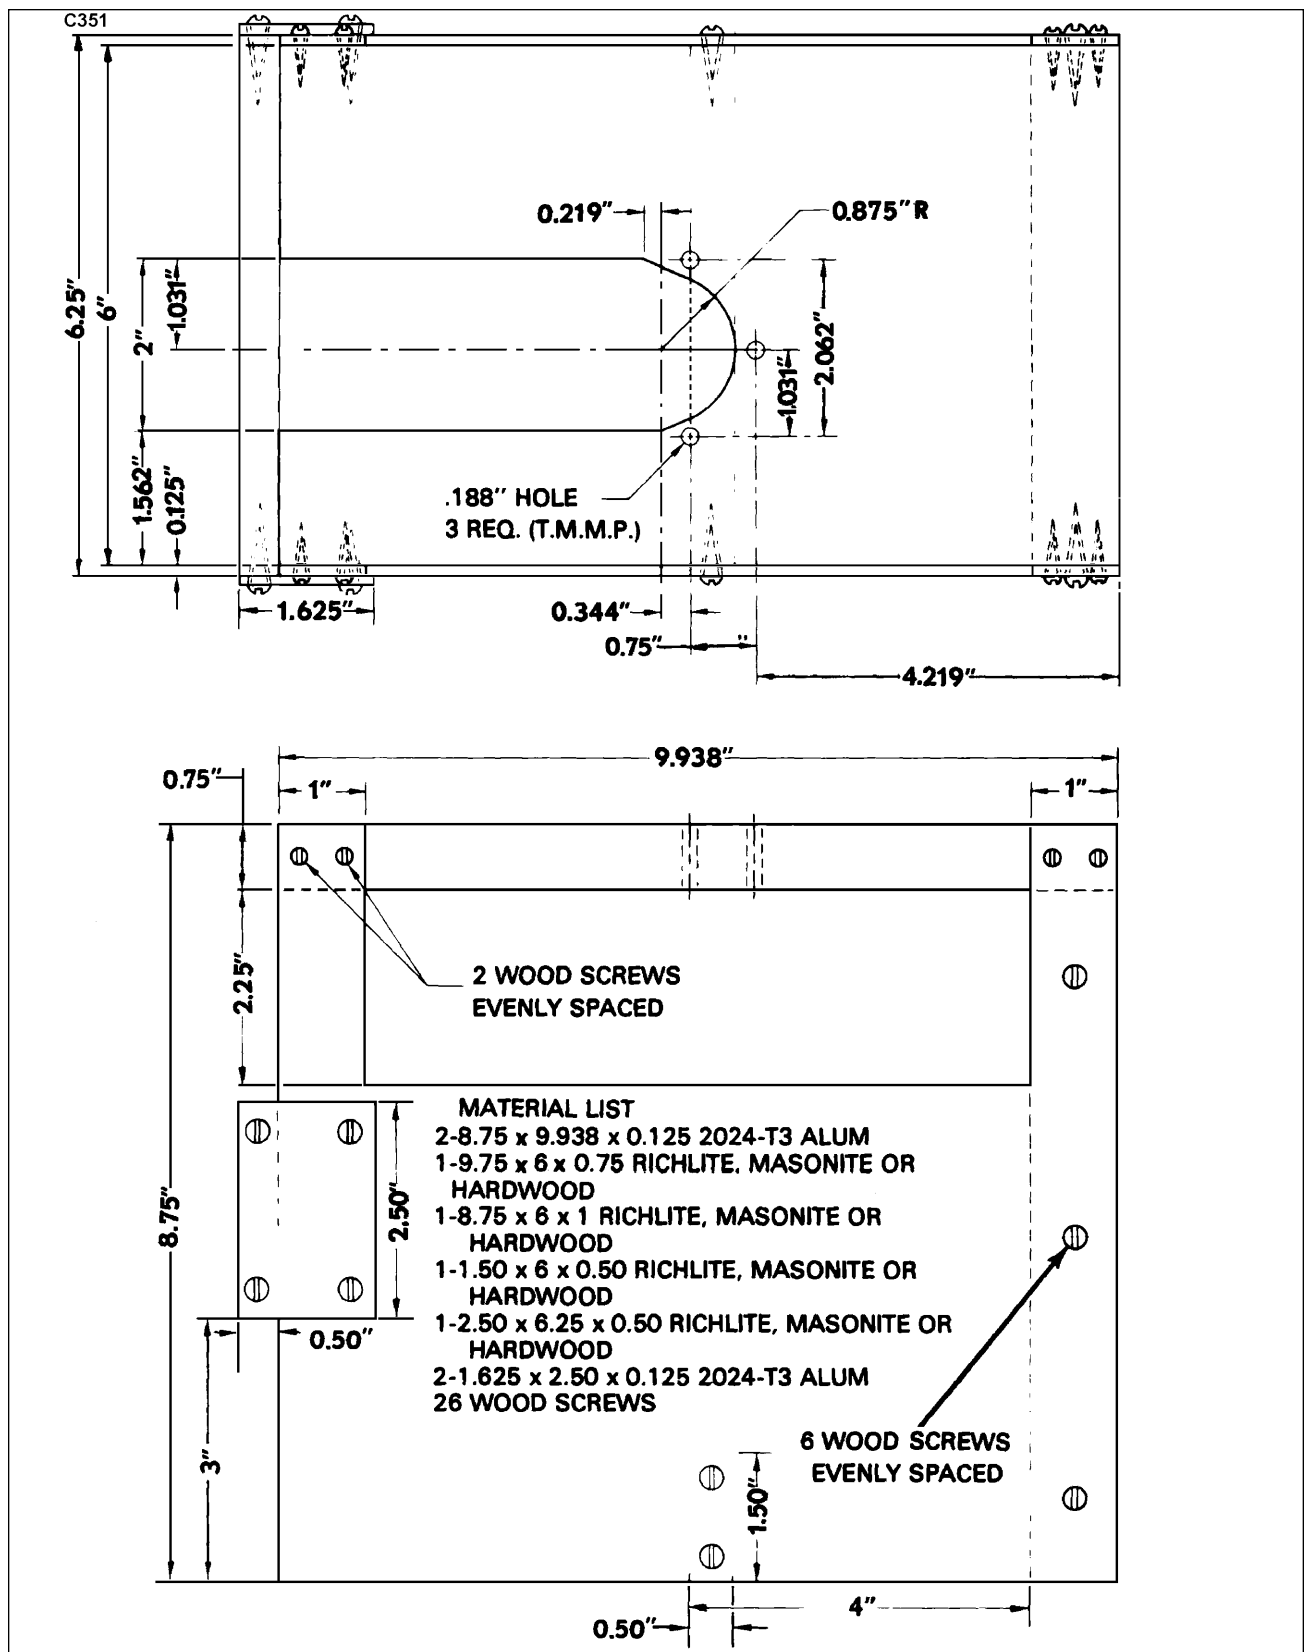

Figure 8-3a. Fuel Quantity Sender Checking Fixture
1. Fasten unit to a fabricated checking fixture with washers and nuts (Refer to Figure 8-3a for dimensions of fuel quantity sending unit checking fixture).